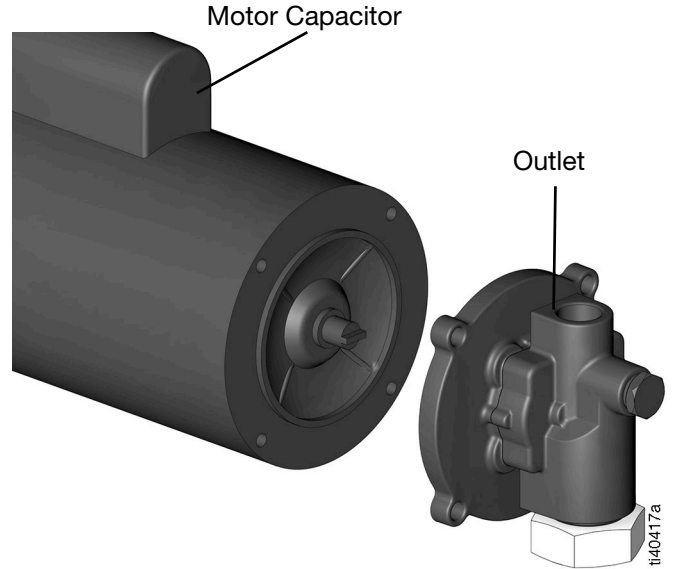

FIG. 6
- The pump outlet should face up and the motor capacitor and the outlet should both be on top (FIG. 6).